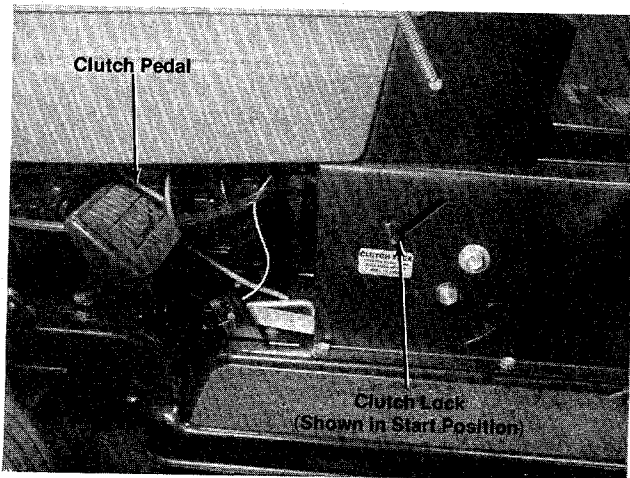

FIGURE 9.
e. Clutch Pedal. The clutch pedal is used to disengage the drive mechanism. Depressing the clutch pedal at any time will reduce mower speed. If depressed all the way, it will stop the mower. See figure 9.
f. Clutch Lockout. When the clutch pedal is depressed all the way it can be locked by placing the clutch lockout in the START position as shown in figure 9. The clutch lockout must be in this position before the engine will start.
Step 2. Place the clutch lockout in the START position. See figure 9.